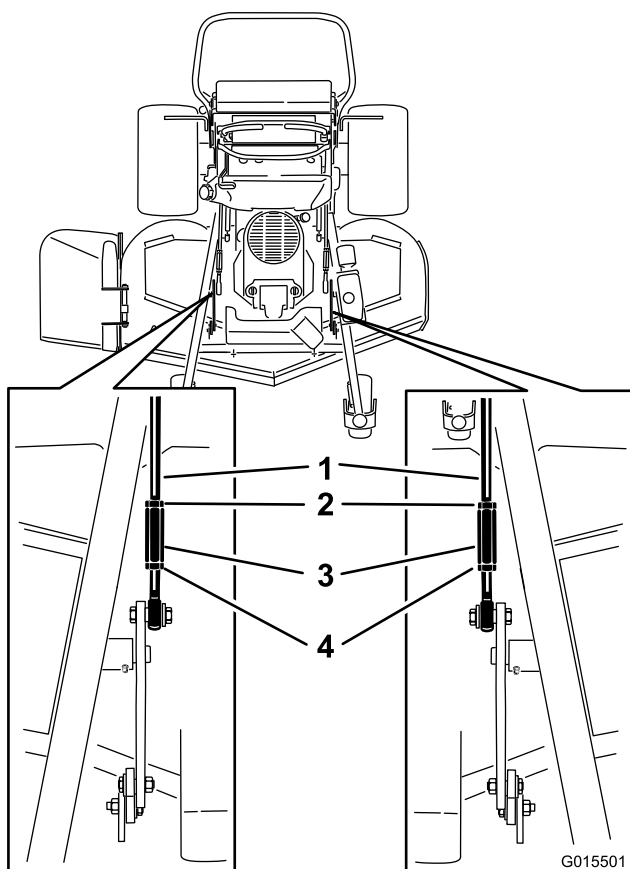

Figure 96
4. For 60-inch mower decks, loosen both the front and rear nuts and lift links on the adjustment rods (Figure 96).
5. For 60-inch mower decks, tighten the lift links (Figure 96).